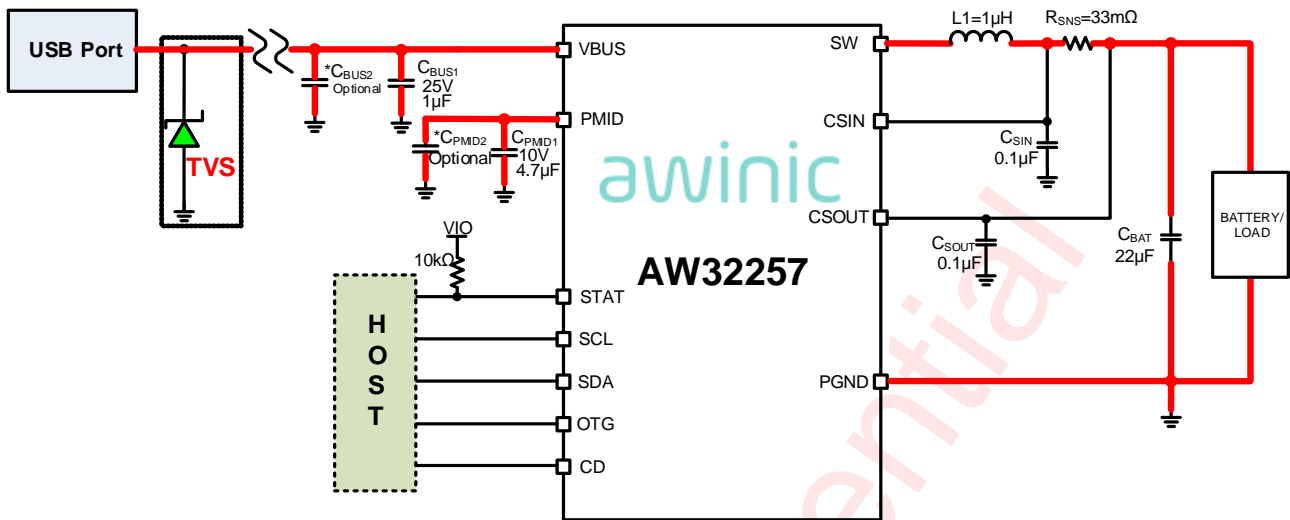

Figure 4 AW32257 Application Circuit
- 2: For the sake of driving capability, the power lines, output lines, and the connection lines of $L1$, R_{SNS} , and BATTERY should be short and wide as possible. The power path is **marked in red** as shown in the Figure 4 above, please trace according to 2.5A power line alignment rules.
Circuit of Figure 4, $V_{BUS}=5V$, $OPA_MODE=0$, $HZ_MODE=0$, $CD_PIN=0$, $T_J=25^{\circ}C$ for typical values (unless otherwise noted)